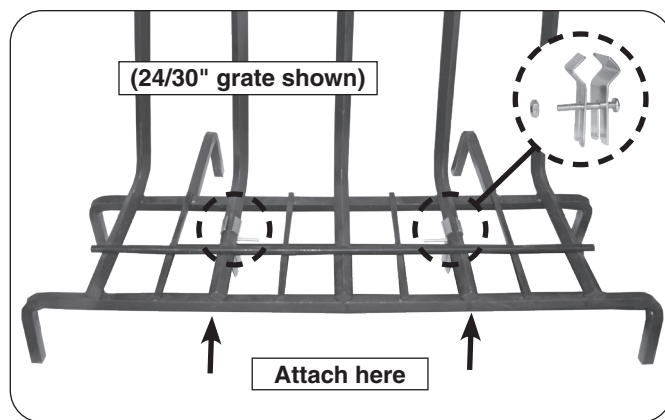
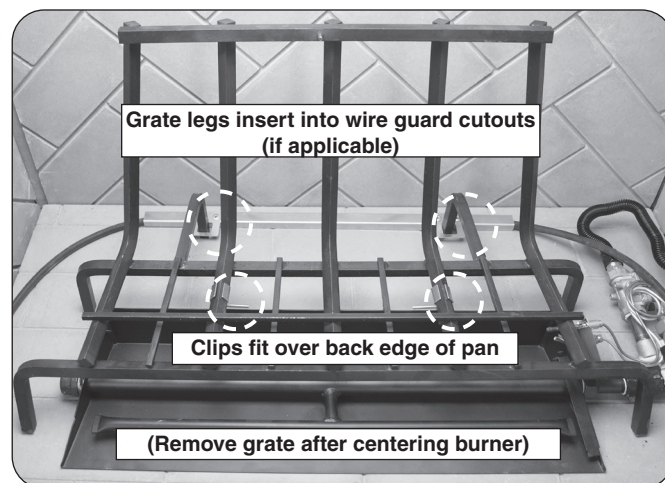
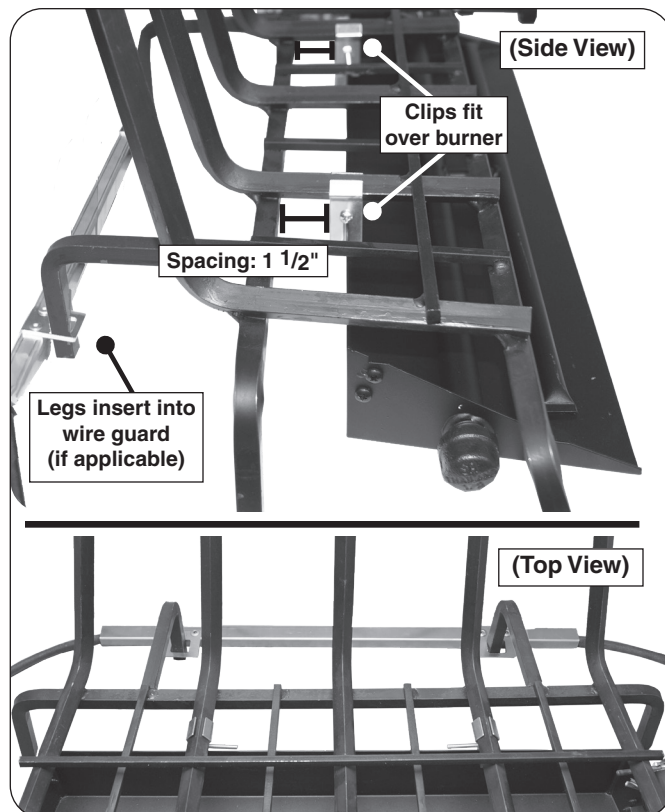

Fig. 17-1 Attach stabilizer clips to grate
Fig. 17-2 Position grate
Fig. 17-3 Grate placement detail
1. Locate the grate (outside of the fireplace), and attach the stabilizer clips to the 2 inner bars of the grate using the provided screws and nuts (see Fig. 17-1 and Fig. 17-3).
The stabilizer clips should be positioned on the inner bars and oriented as shown. **Note the 1 1/2" spacing in Fig. 17-3.** Tighten the clips in place.
See Fig. 17-2 and Fig. 17-3.